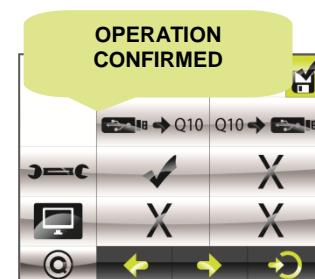

FIGURE 3.
- 3. Lastly, we will view a screen confirming the operation (fig.3)